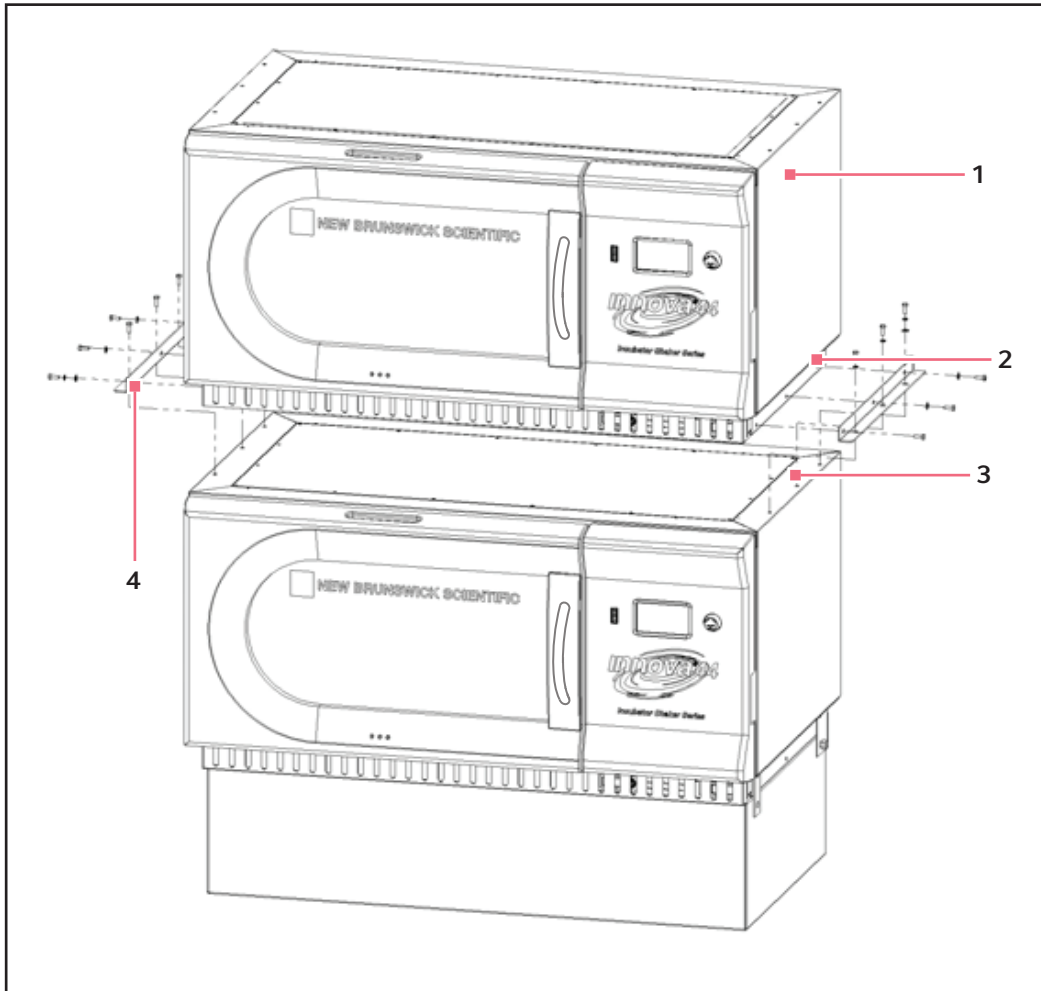

Fig. 6-5: Install Innova 44/44R Stacking Kit
3. With reference to the figure below (see Fig. 6-5 on p. 26), remove the set screws from the top of the bottom unit, on the two side edges, and remove the set screws (from the sides of the unit to be stacked) that correspond to the mounting brackets.
- Using the screws and washers provided, attach the stacking kit mounting brackets to the top of the bottom unit. Secure the brackets in place as shown (see Fig. 6-5 on p. 26).